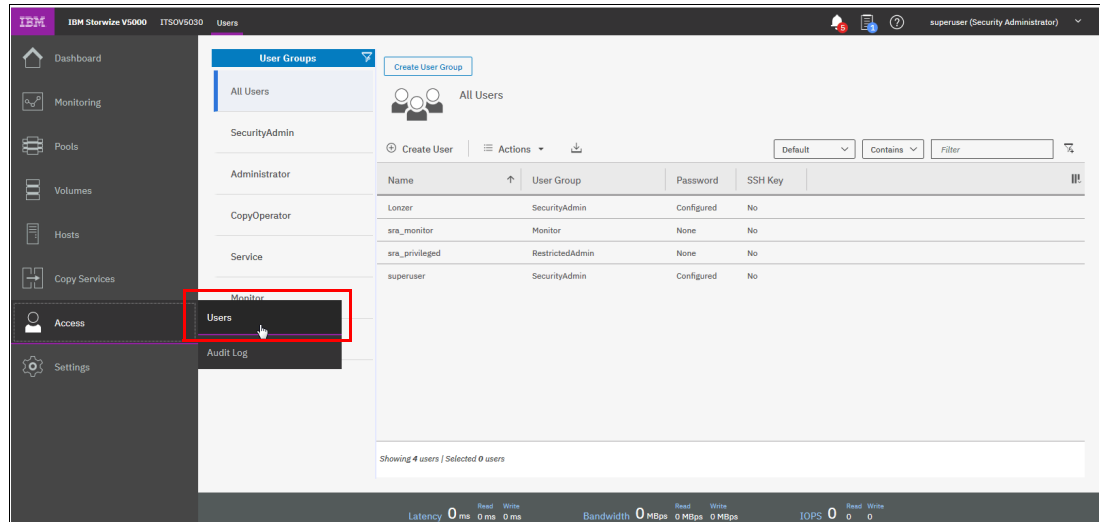

Figure A-7 Click Users on the Access menu
1. On the System Overview, click the **Access** icon and select **Users** in the GUI menu (see Figure A-7).